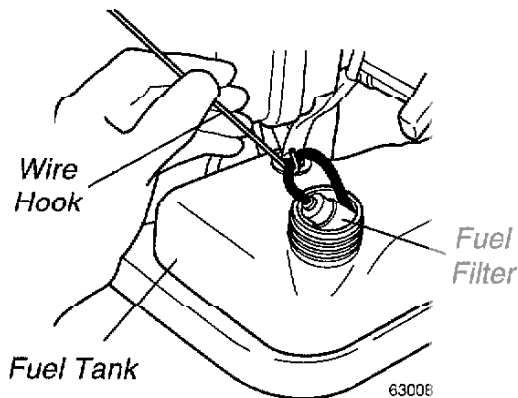

Figure 14
- **FUEL FILTER** Use a wire hook to extract the fuel filter from inside the fuel tank. See Figure 14. Inspect the filter element for signs of contamination from debris. A contaminated fuel filter should be replaced with a new Shindaiwa replacement element.